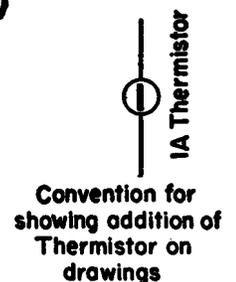

Fig. 2
3.04 Mark the existing circuit label as illustrated in Fig. 2 to show the addition of the thermistor in the circuit.